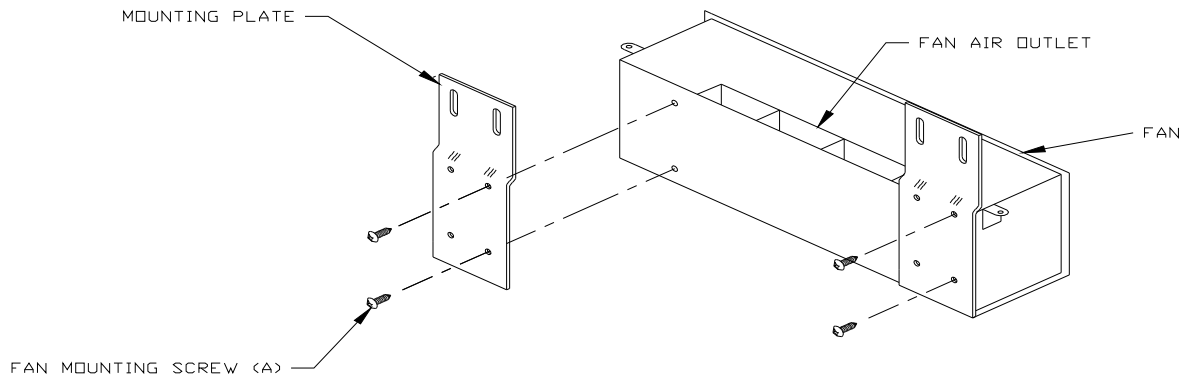

Figure 1
1. Install the two formed mounting plates onto the fan housing as shown in figure 1 and fasten with the four provided screws (a) through the holes as indicated.